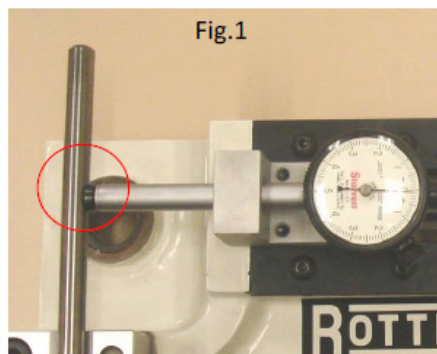

Fig.1
- 2- Turn the digital micrometer thimble in until the end of the micrometer is flush with the edge of the micrometer frame. Then turn the thimble out until the '0' mark on the thimble lines up exactly with the line on the barrel (see fig.1).